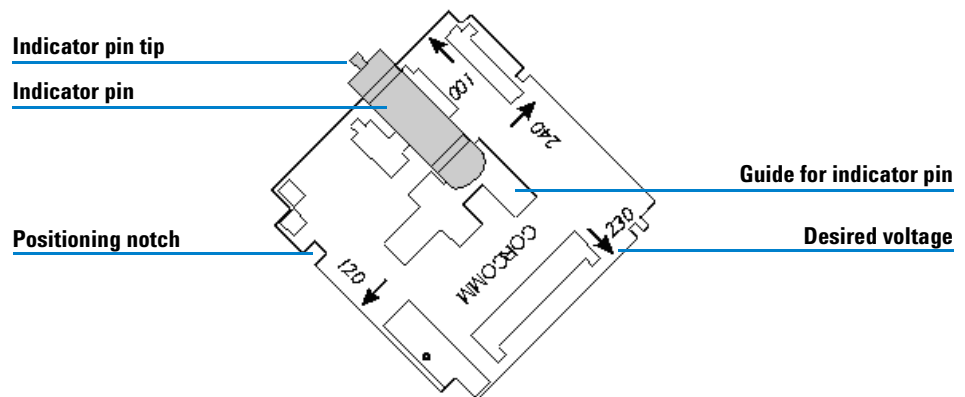

Figure 16 Voltage Selector Card
- 5 Move the indicator pin along the guide to the position opposite the selected voltage (see Figure 16). Seat the indicator securely into the positioning notch.